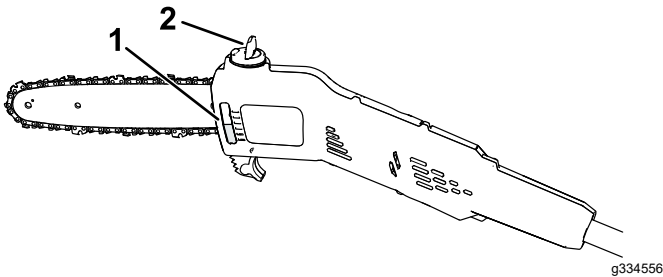

Figure 15
2. Check the oil level in the window. If the oil does not fill the window, add bar and chain oil as needed (Figure 15).
4. Clean the area around the oil cap (Figure 15).
5. Unfold the wing-nut tab on the oil cap tab, remove the cap, and pour bar and chain oil into the pole saw until the oil fills the tank (Figure 15).